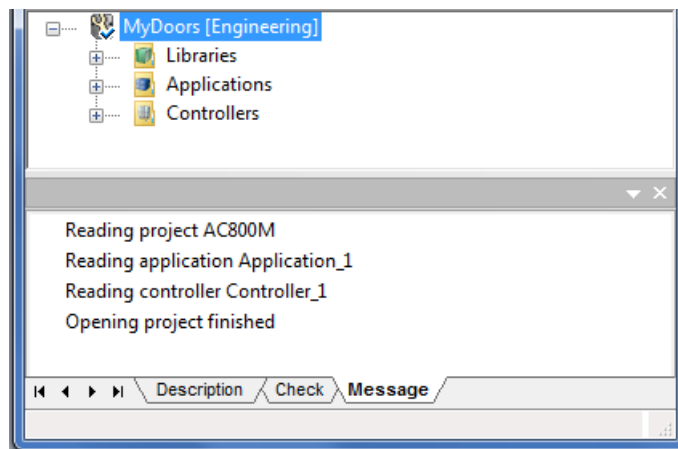

Figure 13. MyDoors project opened in Project Explorer.
6. Click **OK**. Project Explorer creates and opens MyDoors project, see Figure 13.